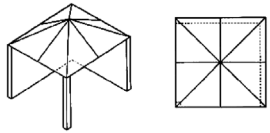

Figure 2 - Partial Enclosure with overhead cover and no more than two walls.
- › Within a partial enclosure that includes an overhead cover and no more than two walls. See Figure 2 & 3